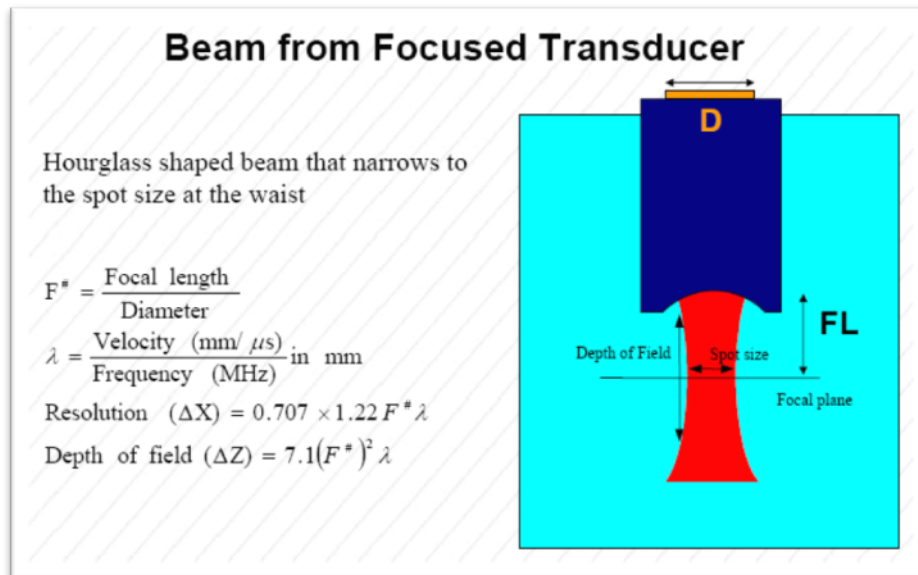

Figure 5 — Relationship of Properties for Focused Transducers
Focal Length (FL) - The distance in water from the face of the transducer to the location where the beam's diameter is at a minimum (also known as its spot size). The mathematical relationship between focal length and spot size is shown in Figure 5.
3.1 Reflective Acoustic Microscope System (see Figure 5) Comprised of: